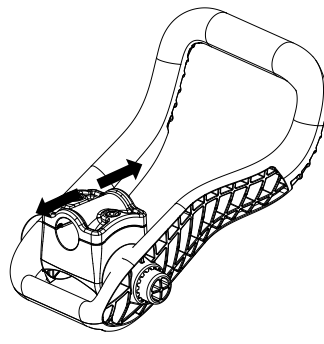

Fig. 2B
2. You can position the handle at the desired height on the handle by unscrewing the two bolts and move the mid grip handle up or down to the desired position, then screw and fully tighten the two screws to fasten it in place. (Fig. 2B)